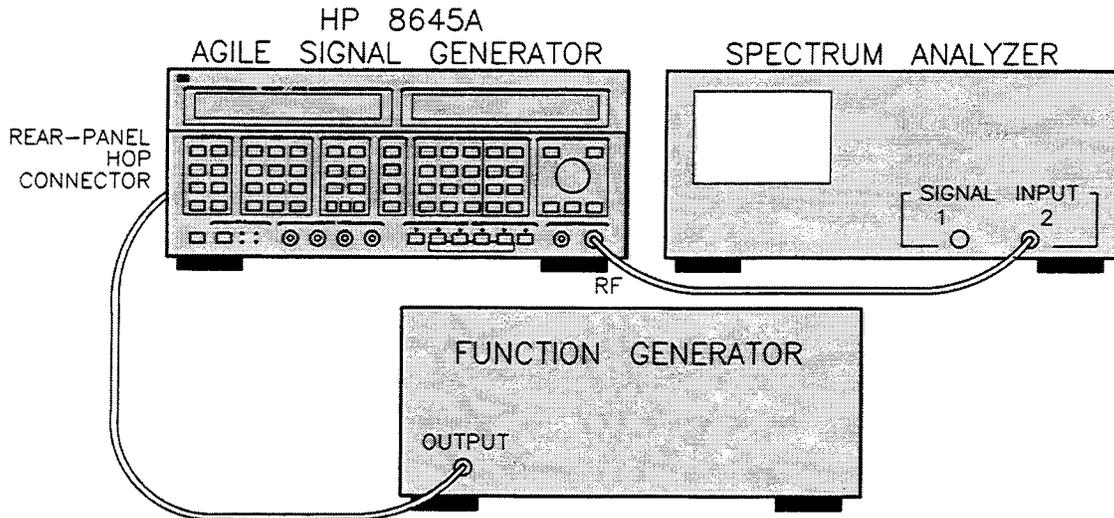

Figure 3-26. Equipment Setup for External Stepped Internal Dwell Procedure #2.
16. Connect the HP 8645A to the Spectrum Analyzer and Function Generator as shown in figure 3-26. Keep the Spectrum Analyzer set to the adjustments made in Procedure #1. Turn on the Function Generator and make the following adjustments: